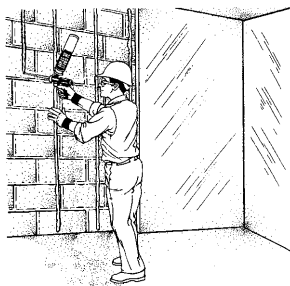

Figure 2
2. Apply heavy beads (min. bead size 3/8") of ENERBOND™ MH or SF Polyurethane Adhesive or appropriate construction-grade adhesive to the wall (Figure 2). Note: Follow adhesive manufacturer recommendations for application pressure and cure times for proper adhesion to masonry walls.